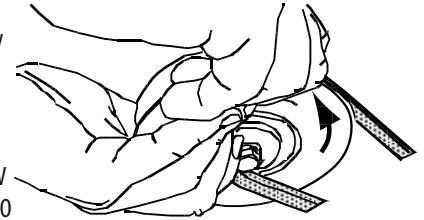

Figure 56
- Pull the right side of the belt and place the narrow V side of the belt into the PTO pulley. See Figure 56.